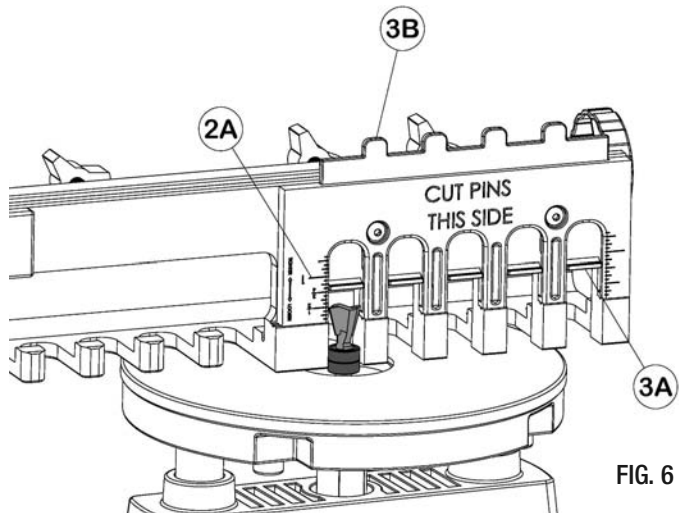

FIG. 6
2. Set the height of the Dovetail Cutter Bit using the Depth Measuring Working Surface (3A). (FIG. 6)